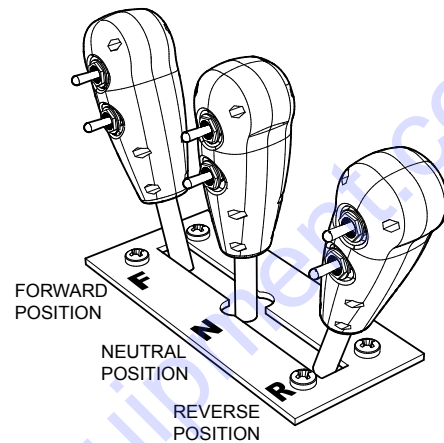

Figure 23. Travel Lever (Moving)
1. To make the roller move in a forward direction, move the travel lever forward as shown in Figure 23.